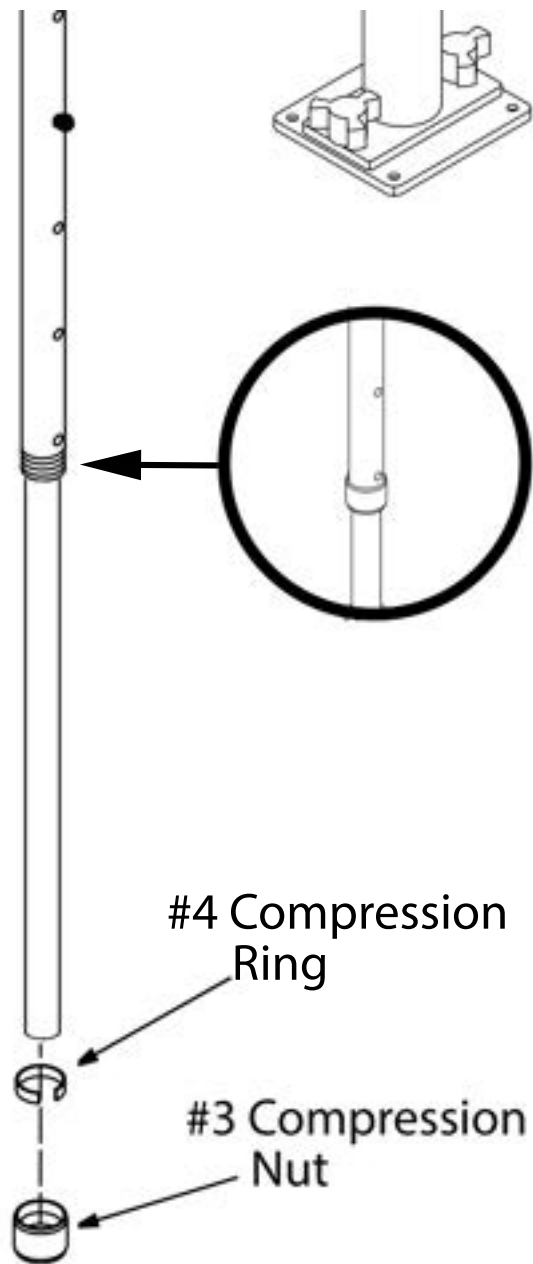

FIGURE 6.
STEP 6. Install compression nut and compression ring over composite extension and tighten on aluminum down tube as seen in Figure 6.